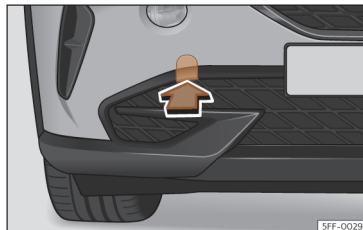

Fig. 201 Front bumper on right: remove the lid.
The housing of the removable towline anchorage is on the right side of the front bumper underneath a cover >>> **Fig. 201**.
- Remove the cover by pressing down on its base and leave it hanging from the vehicle >>> **Fig. 201**.